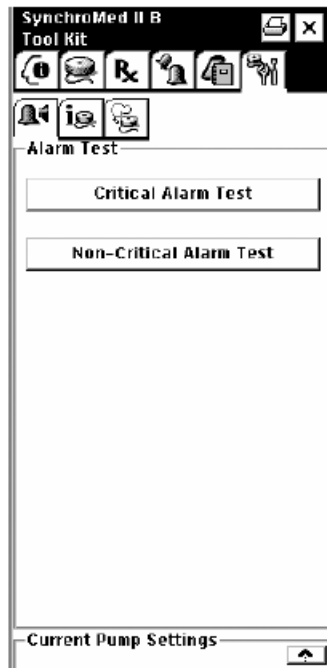

Figure 53. Testing alarms.
3. Select the NONCRITICAL ALARM TEST button or CRITICAL ALARM TEST button (Figure 53).